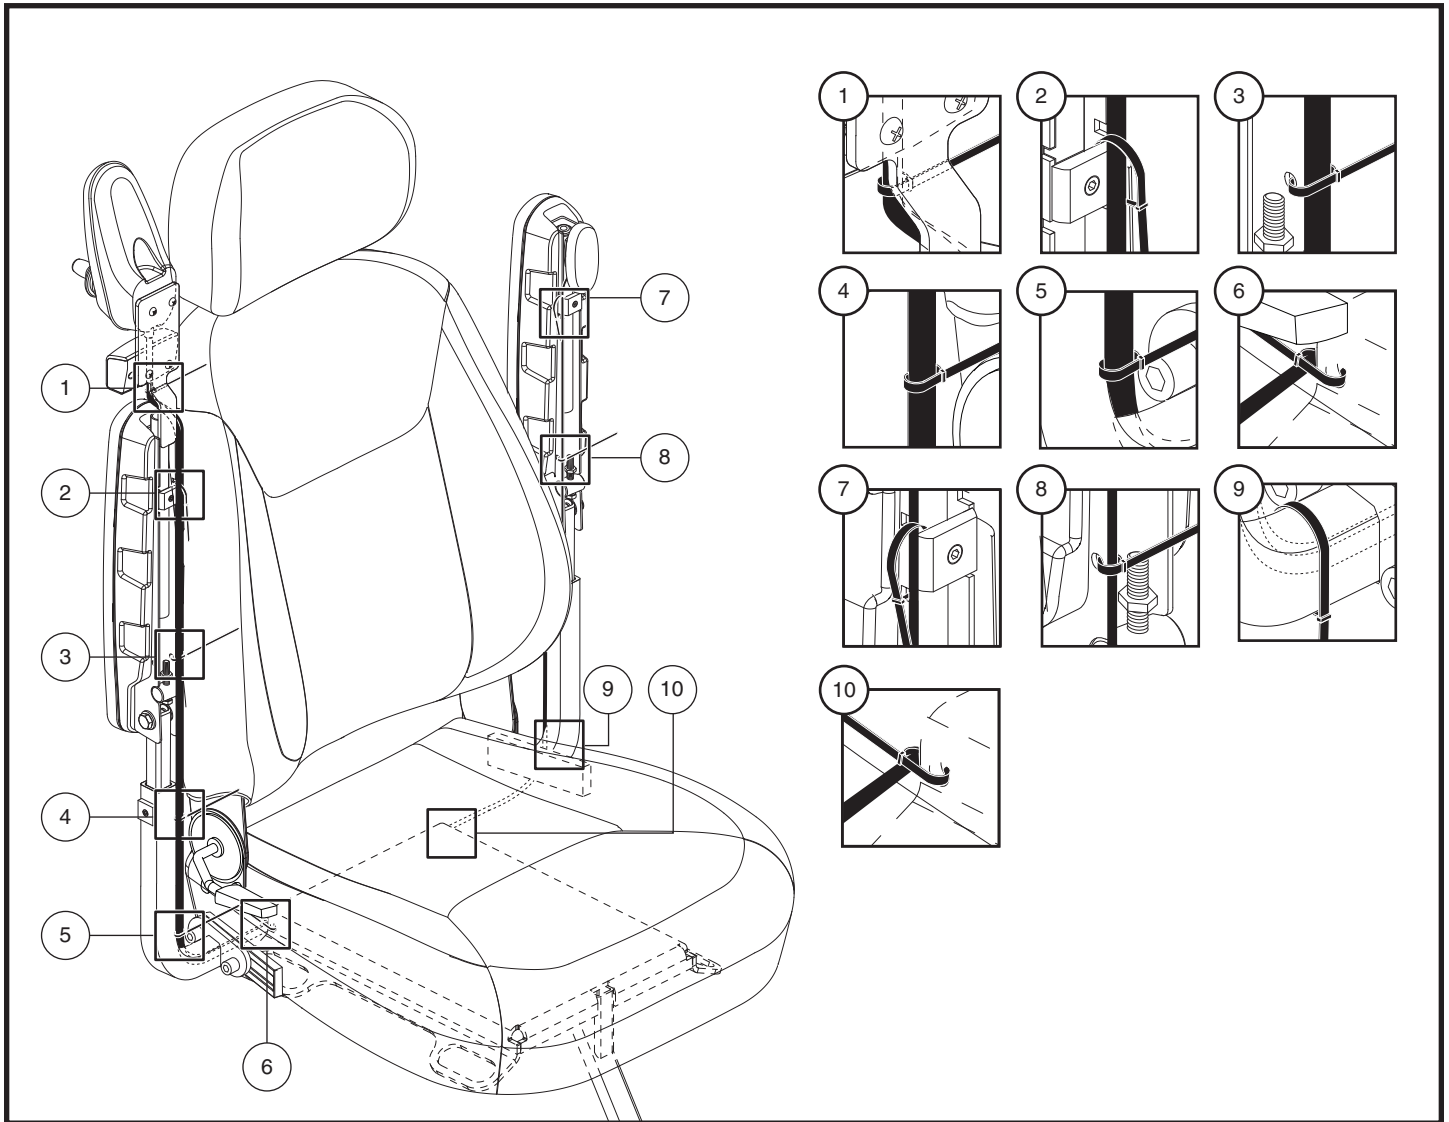

Figure 10. Controller Harness Routing
17. Secure the harnesses on the armrest with the supplied wire-ties as shown in **figure 10**.
19. Secure the harnesses along the armrest receiver and seat plate with supplied wire-ties as shown in **figure 10**.
WARNING! Ensure that all harnesses are properly routed as shown in figure 10. Improper routing can cause damage to the light switch, controller or other electrical components.
2. For locations 1 through 10, tighten the wire-ties into place according to the proper harness routing as shown in figure 10.
9. Route the controller harness along the seat frame and secure with wire ties. See **figure 10**.